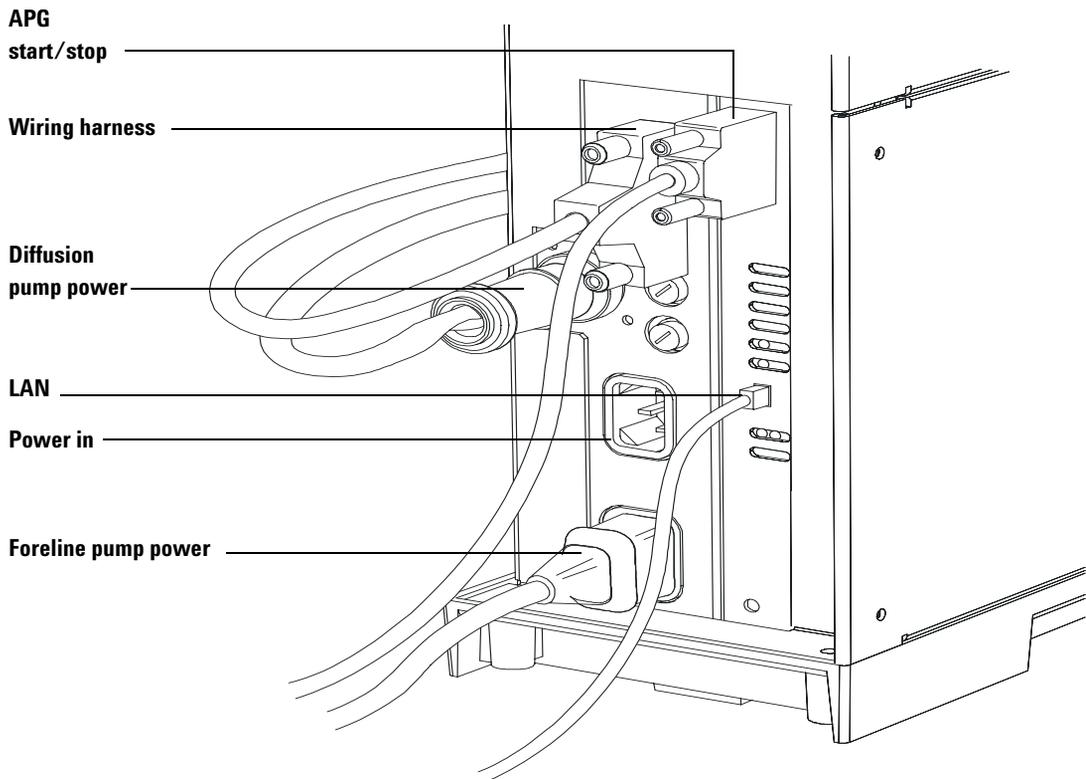

Figure 15 MSD Rear panel view
- 6** Connect the cables on the back of the MSD (see Figure 15).